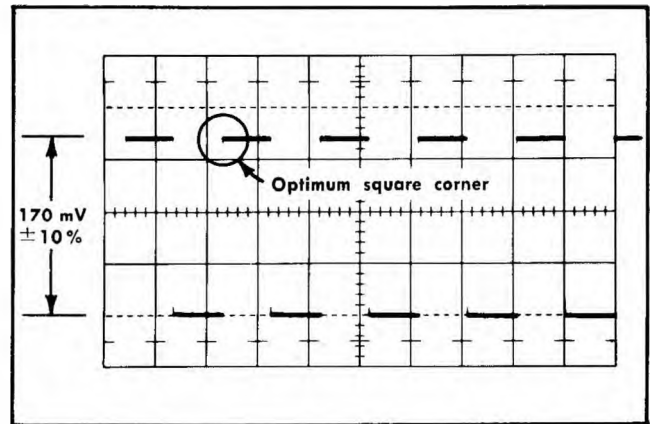

Fig. 5-10. Typical display obtained on the test oscilloscope when checking the SIGNAL OUTPUT gain.
- Check—Display amplitude on test oscilloscope crt should be 170 mV peak to peak within a tolerance of $\pm 10\%$ (3.4 cm ± 3.4 mm). See Fig. 5-10.